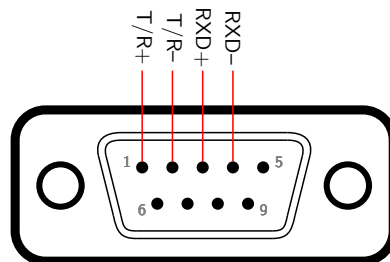

Figure 3.3: DB-9 female connector (solder side).²
1. Solder the pins on the female DB-9 connector as shown in Figure 3.3. Note that the pin numbers shown in the diagram are for the solder side of the connector.